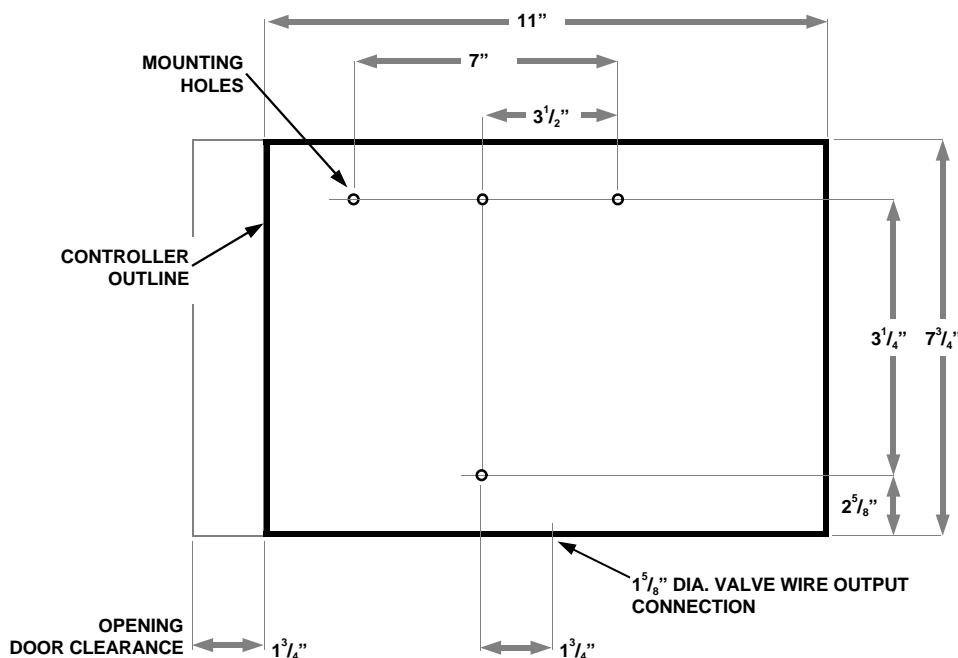

Figure 2
1. Choose a location that provides a minimum clearance of 13" wide x 8" high. Since the electrical connections are provided at the bottom of the cabinet, clearance should be allowed for the conduit connections etc. Refer to Figure 2. The location must be within 5 feet of an electrical outlet.